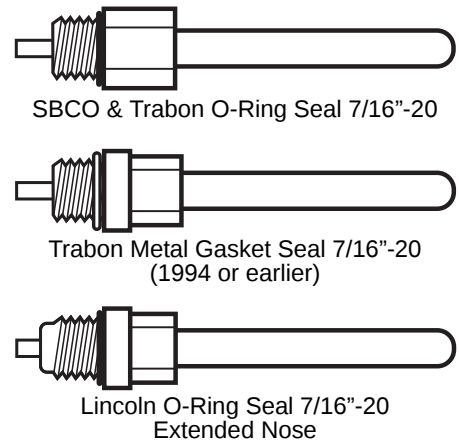

FIGURE 1 Typical DNFT Magnet Assemblies
2. Remove piston enclosure plug from end of desired divider valve. The DNFT installs on any of the divider valves of the divider block. The DNFT requires the correct magnet assembly to match the divider valve manufacturer (see Figure 1).